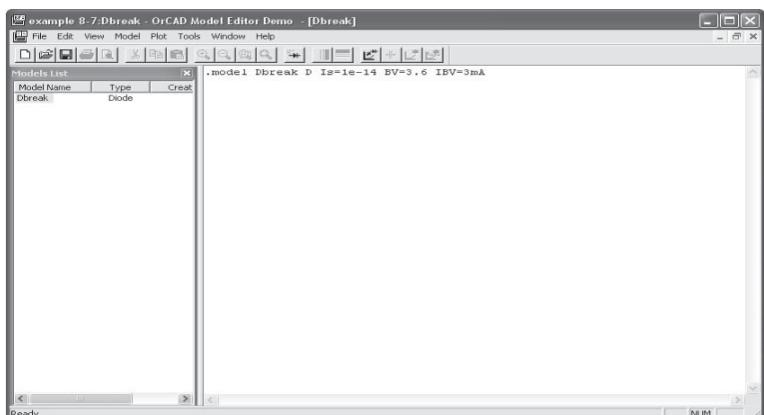

FIGURE 8.91 Desired parameters for the Zener diode in Example 8.32.
- Change the parameters in the window to the value shown in Figure 8.91 and save it. “BV” is the breakaway voltage or the reversed voltage, and “IBV” is the breakaway current.